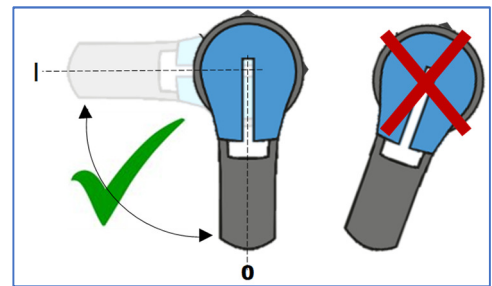

Fig. 8. Proper Alignment of Switch
Note the proper orientation of the switch handle (Fig. 8) for both “ON” (I) horizontal and “OFF” (O) vertical. The switch handle should not be left in any other orientation.